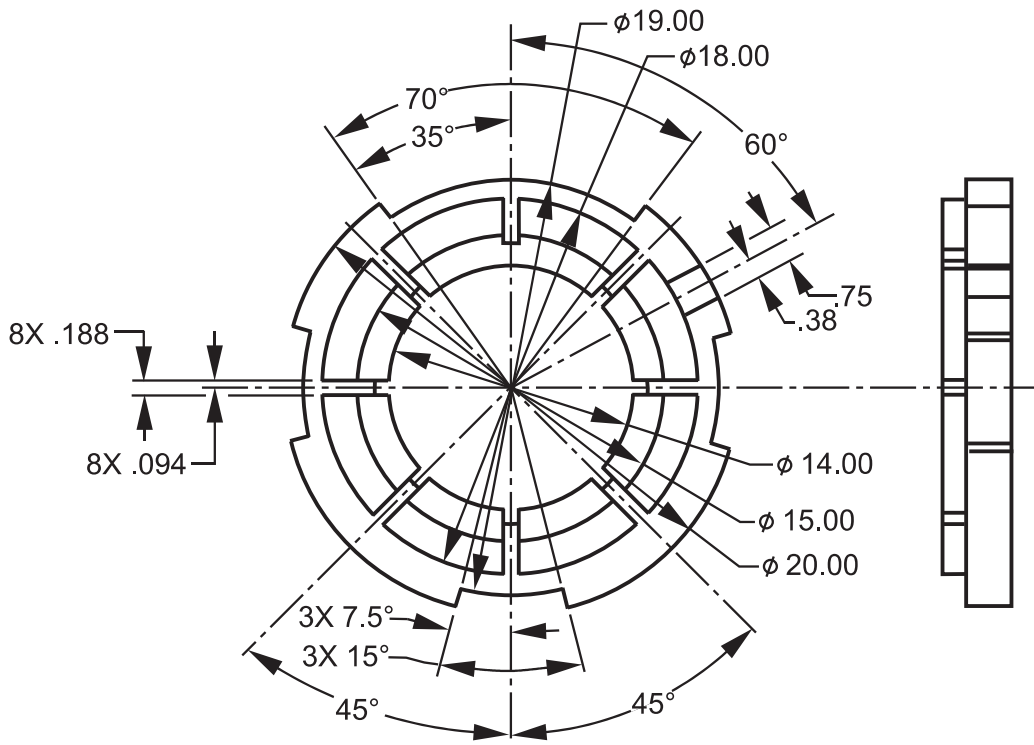

Figure 11
4.19 Dimensions Coming from Centerlines (not a rule in the standard) – Figure 11 illustrates the condition where dimensions are generated from centerlines with no knowledge as to which feature the centerlines represent on the part. Figure 11 is a poorly dimensioned part and needs a datum(s) or a general note stating the functional features such as: